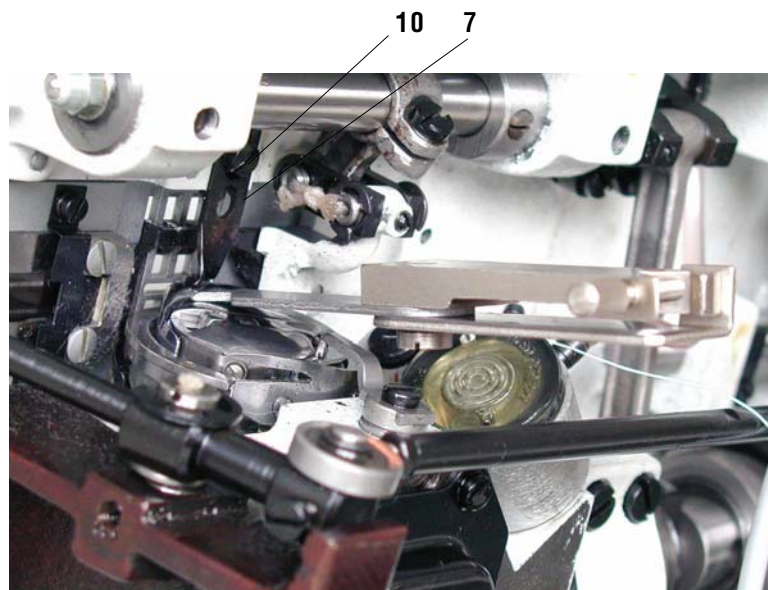

Fig. 11
12. Setting of the middle part of the hook holder (Fig. 11, 12)
Set the middle part hook holder (7) in such a way, so that the space between the holder nose and the bottom of the groove of the middle hook part is about 0.7 mm. Proceed to this setting after having loosened the holding screw (10) using a locating jig (Fig. 11) - see equipments part A, par. 4.2, 4.4.